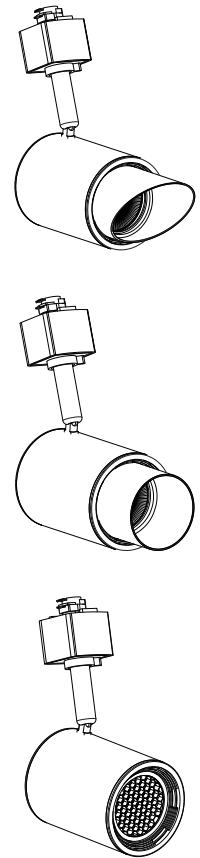

fig. 3
4. Wire the wires from the back of the fixture to power source inside the J-box (black to hot, white to neutral, green to ground). Carefully tuck all the wires and connectors inside the J-box. (fig. 3)